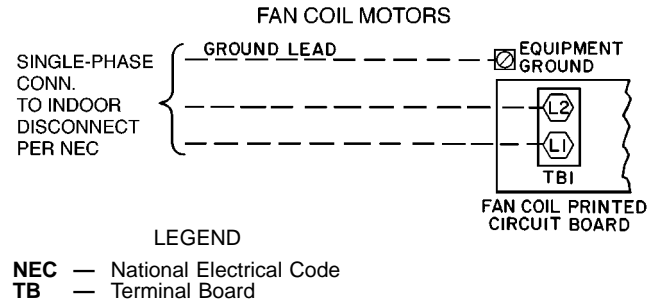

Fig. 11 — Line Power Leads
- b. Using Fig. 11 wiring diagram, connect power from disconnect wire to high voltage terminal board (TB1) and ground.